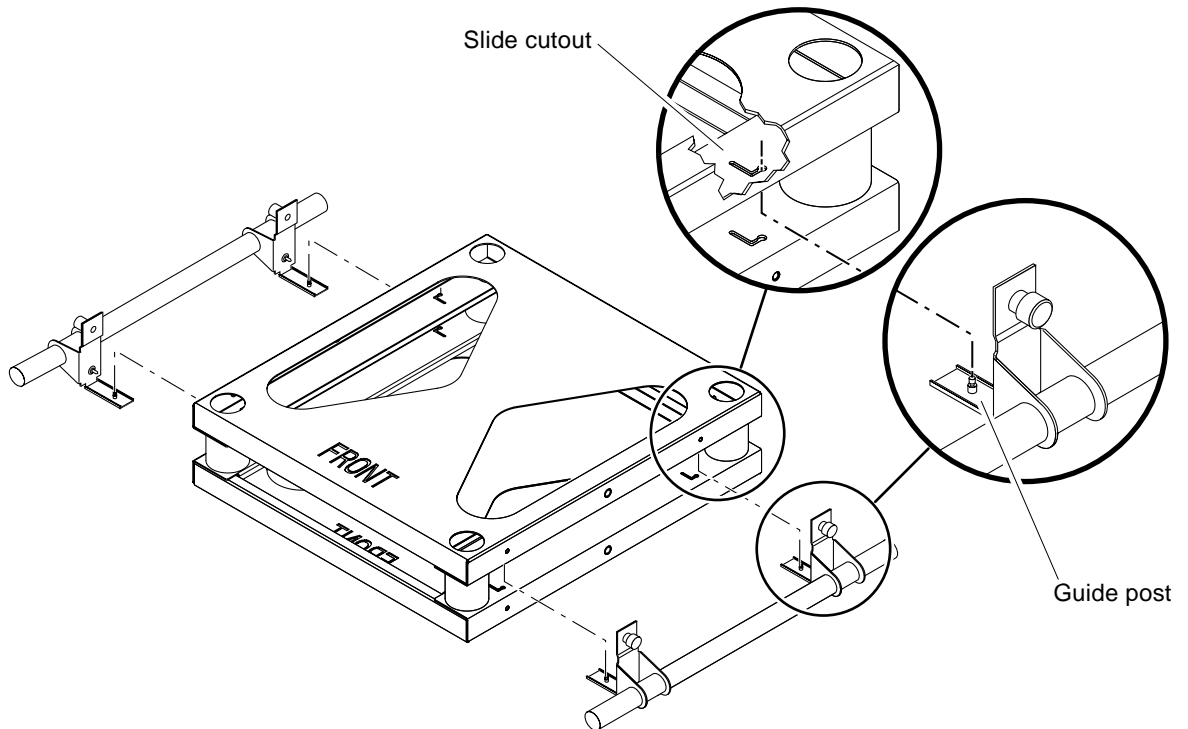

FIGURE 2 Shipping Cradle Details
- a. As shown in FIGURE 2, align the two guide posts on the handle with the entry holes on the L-shaped slide cutouts.**